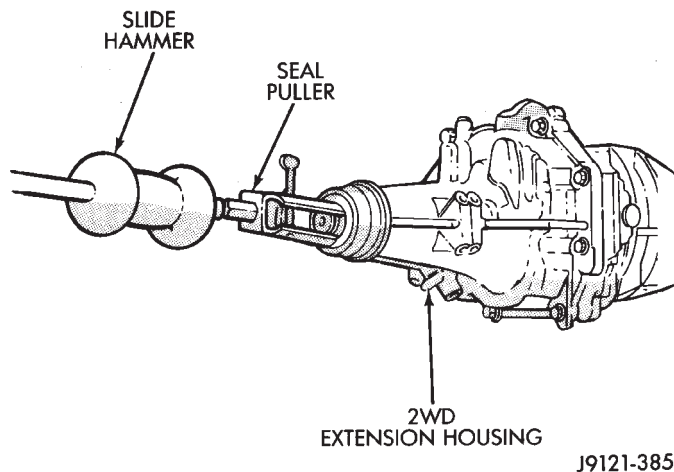

Fig. 13 Remove Extension Housing Seal
(1) Raise and support vehicle.
(2) Remove propeller shaft. Refer to Group 3, Differential and Driveline, for proper procedures.
(3) Using a suitable seal puller or screw with a slide hammer, remove the extension housing seal (Fig. 13).